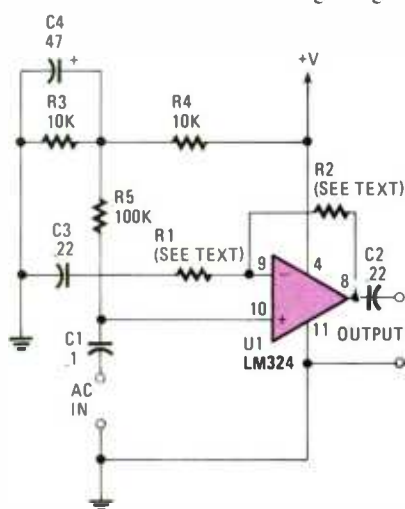

Fig. 4—The Buffer Amplifier differs from the Inverting Amplifier in that the Buffer's output waveform is a carbon-copy of the input signal.
A noninverting Buffer-Amplifier circuit is shown in Fig. 4. The main difference between the previous circuit and this one is that the output remains in phase with the input signal. A number of active filters (such as the *XMI Electronic Crossover* featured in the November 1987 issue of HOE), oscillators, and other special function circuits require that in-phase signal relationship.
**Fig. 4—**Some modern sets use variable-capacitance diodes (varactors) instead of mechanical capacitors. A simple varactor-tuned LC circuit is shown in "A." The non-linearity of varactor-tuned circuits is partially overcome by connecting two varactor diodes back-to-back as shown in "B."